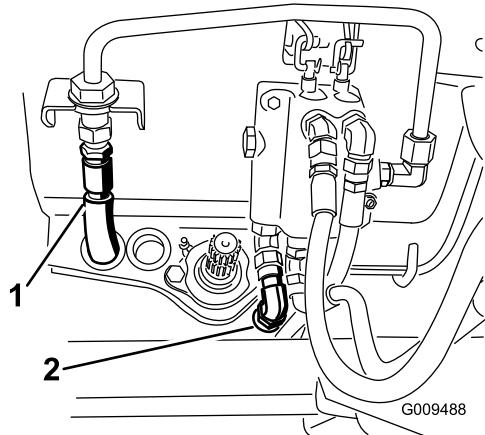

Figure 28
14. Connect the hydraulic pressure hose to the valve hard line and the tank hose to the valve (Figure 28). Retain the hose plugs for the summer change over.